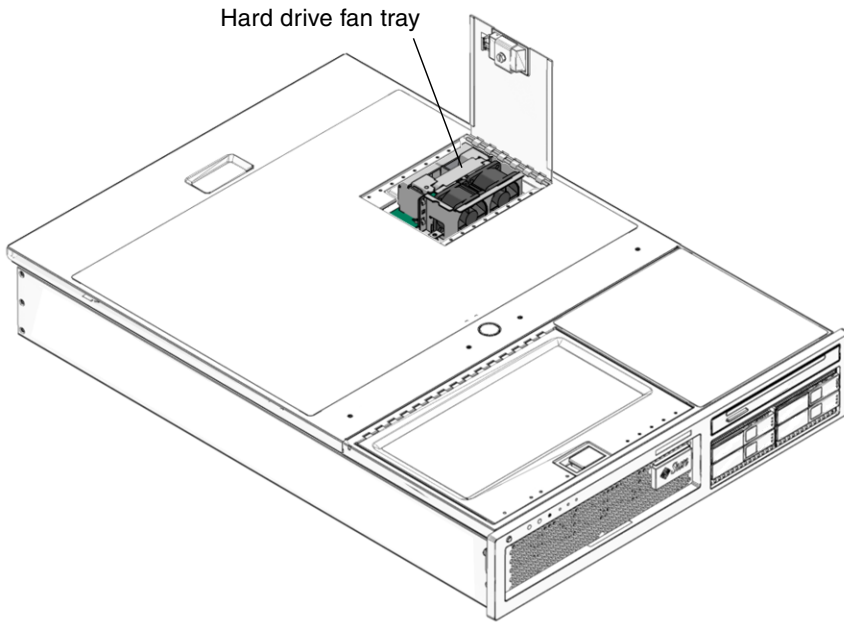

FIGURE 3-35 Hard Drive Fan Tray – Sun Fire V245
2. Remove the hard drive fan tray (FIGURE 3-35).
3. **Install the hard drive fan tray** (FIGURE 3-35).